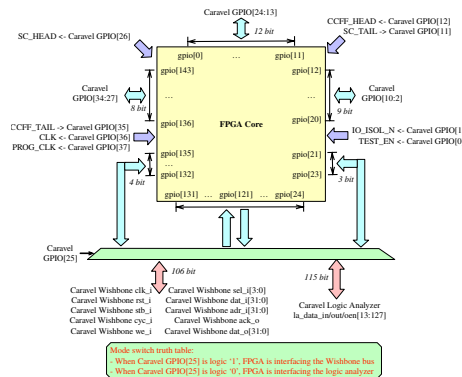

Fig. 3.4: I/O arrangement of *High-Density* (HD) FPGA IP: switchable between logic analyzer and wishbone bus interface
The *High-Density* (HD) FPGA IP has 144 data I/O pins as shown in Fig. 3.4.
Warning: The internal I/O pins will drive either Wishbone or the logic analyzer, following the same truth table as mode-switch bit in Fig. 3.4.